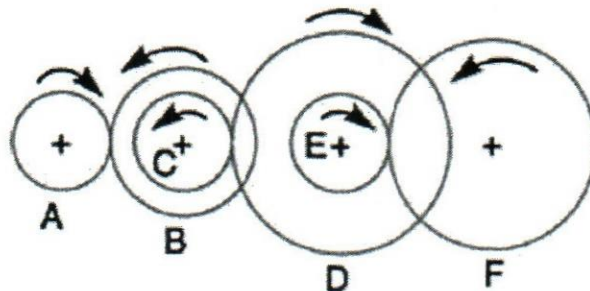

Figure 4
- a) The gearing of a machine tool is shown in Figure 4. The motor shaft is connected to gear A and rotates at 975 r.p.m. The gear wheels B, C, D and E are fixed to parallel shafts rotating together. The final gear F is fixed on the output shaft. What is the speed of gear F? The numbers of teeth on each gear are as given below: [5 marks]